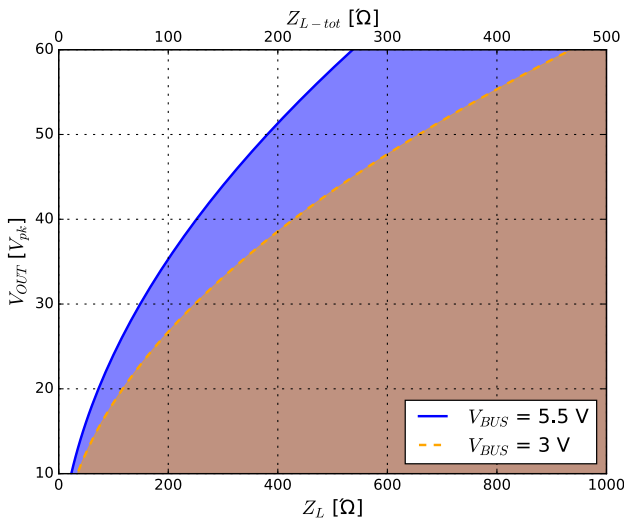

Figure 13: SOA, V_{OUT} vs Per-Channel Load Impedance (Z_L) and Total Load Impedance (Z_{L-tot})
(1) Voltages specified in the table are with respect to GND and PGND unless otherwise stated.
(2) Digital I/O voltage (V_{DDIO}) must match the communication interface voltage.
(3) See Figure 13 for SOA and see section 7.4.1 for the maximum current calculation.
(4) R_{sense} value of 130 mΩ limits the current in L₁ inductor and SW pin (I_{pk}) to 2 A. See section 7.4.4 for R_{sense} selection.